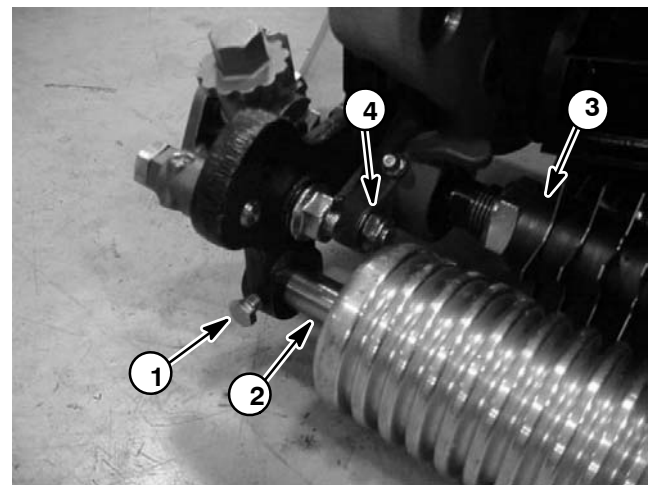
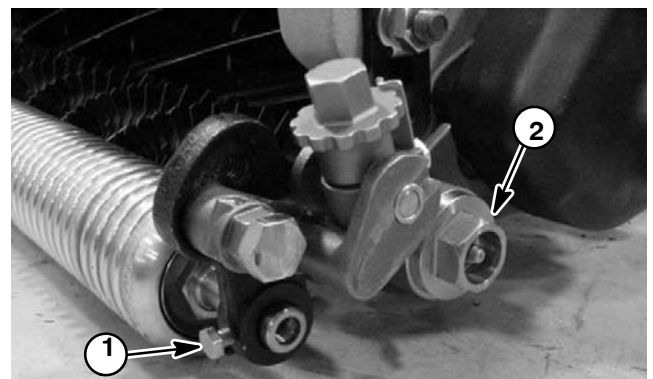

Figure 7
Figure 8
3. Loosen cap screws that secure front roller shaft to RH and LH groomer arms (Figs. 7 and 8).
4. Remove lock nut (item 27) and spring washer (item 28) that secure RH groomer arm lift rod to RH side plate (Fig. 7).
5. Remove lock nut (item 17), washer (item 16) and carriage bolt (item 23) that secure RH groomer arm assembly to RH side plate. Do not change height-of-cut screw adjustment. Remove RH groomer arm assembly.
7. Remove the flange nut that secures driven pulley (item 31) to groomer shaft. Remove driven pulley from shaft. Locate and retrieve square key (item 30) that locates pulley on shaft.
8. Use a 3/8 in. drive wrench to remove drive pulley (item 4) from the cutting reel shaft.
9. Hold the side plate adapters (item 9) with an allen wrench to keep from turning. Remove two lock nuts (item 7) that secure the groomer RH side plate to the side plate adapters. Remove the groomer RH side plate.
10. Remove the cap plug from LH side plate (Fig. 8).
8. Install cap plug (item 22) into LH side plate (Fig. 8).
11. Install spring washer and lock nut to secure RH groomer arm lift rod to RH groomer side plate (Fig. 7).
12. Center front roller and tighten cap screws to secure roller (Figs. 7 and 8).